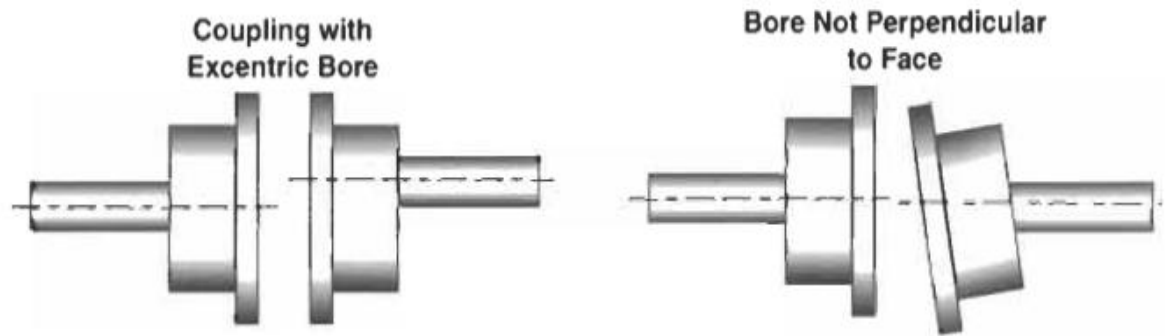

Fig 3.3 Misalignment can be transmitted through the couplings and coupling faces.
- Horizontal/angular misalignment (Figure 3.3)